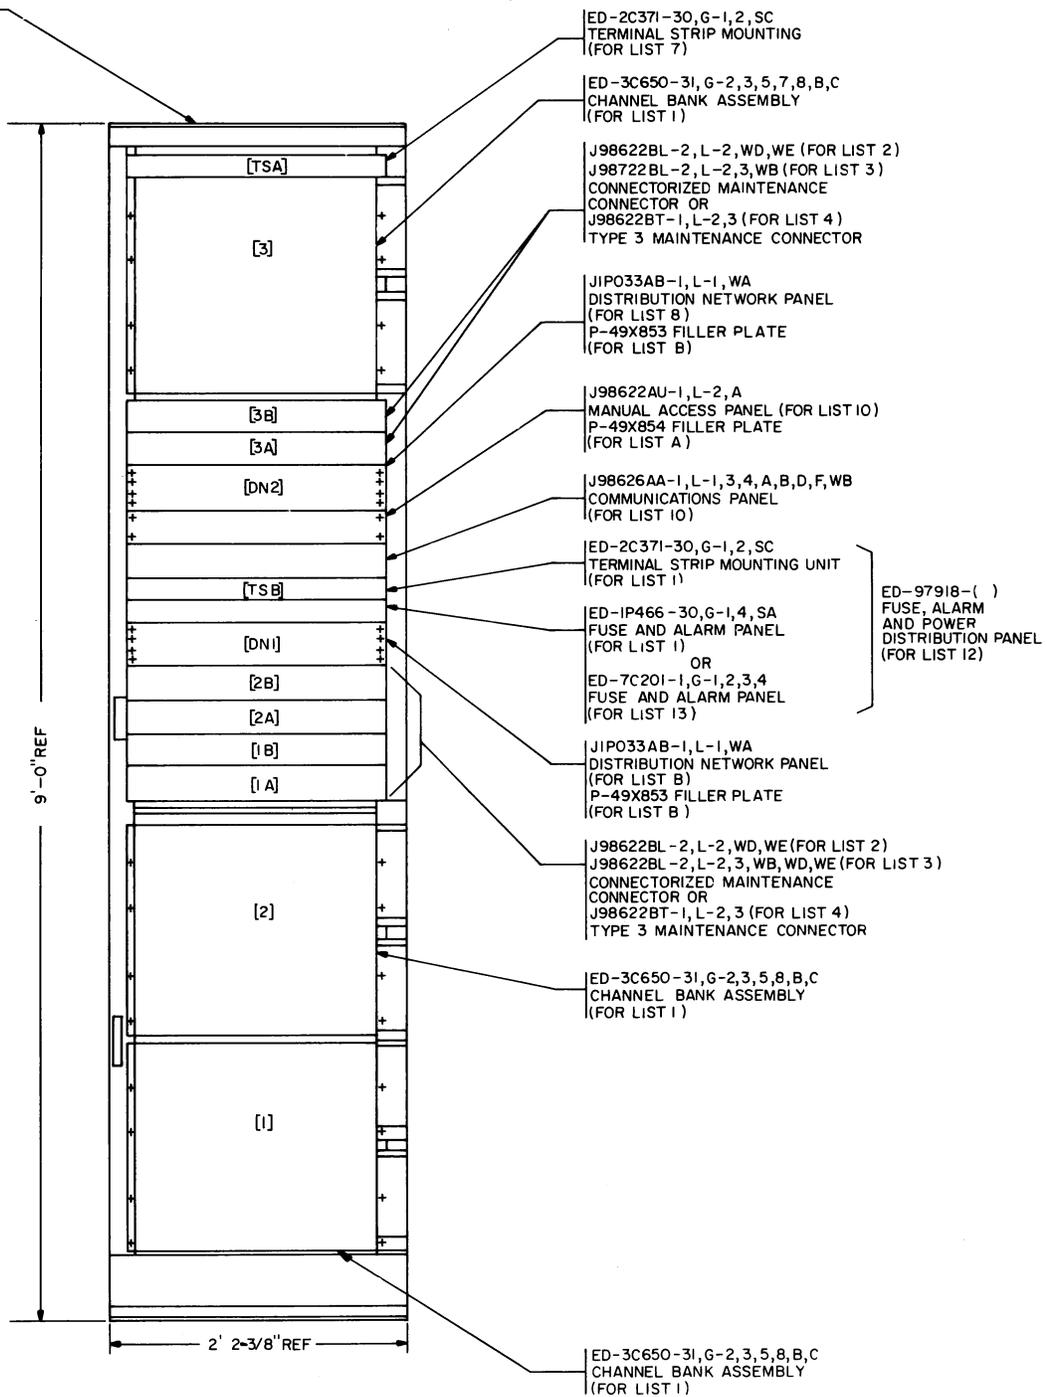

Fig 3—J98733B (Mfr Disc)
**1.04** The J98733B bay (Mfr Disc) shown in Fig 3 is a 9-foot 0-inch unequal flange cable duct-type bay which provides equipment for 144 circuits. Included in this bay are three D4 channel banks (ED-3C650-31), six connectorized maintenance connector